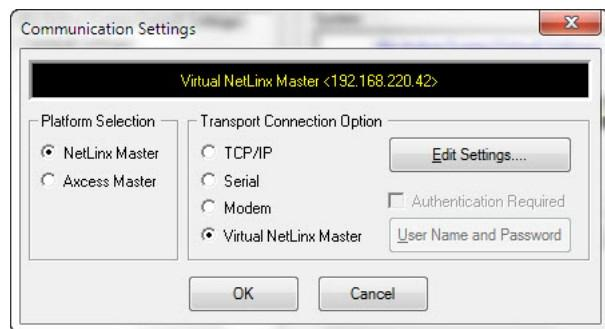

FIG. 30 Communications Settings dialog box
2. Click the **Communications Settings...** button to open the *Communications Settings* dialog box (FIG. 30).